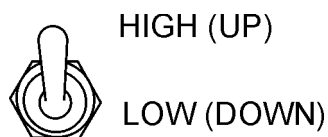

Figure 36. Engine Speed Switch
16. Set the engine speed switch (Figure 36) to low to idle engine, set to high when a load is being applied.